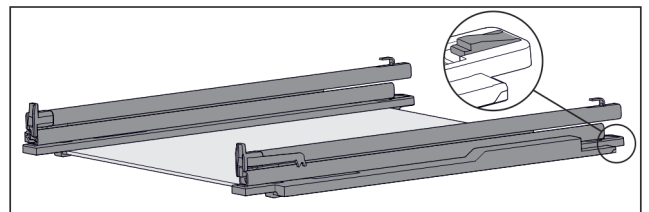

Fig. 121 Glass shelf with rails and retaining parts
- ▶ Press down retaining part at the rear (see Fig. 121) and at the same time push the rail back.